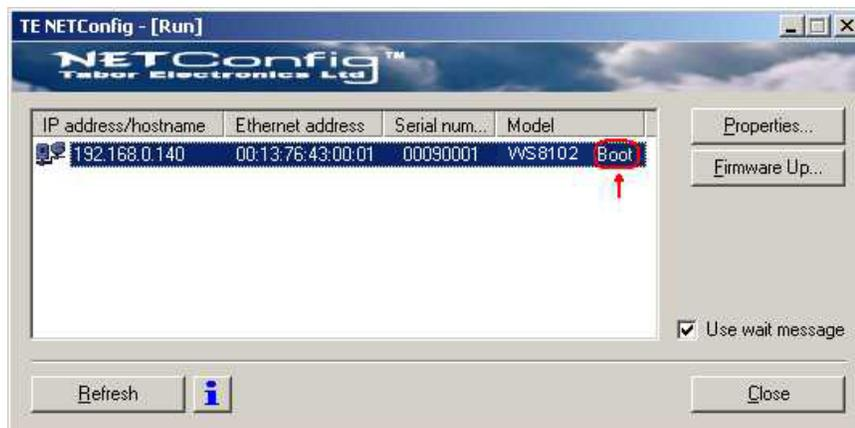

Figure 7-6, WW8102 has been Detected on the LAN Network
5. As soon as the progress bar reached the far right hand of the bar, click on the Refresh button. If your device was connected and booted correctly, the device address will appear in the device list, as shown in Figure 7-6.